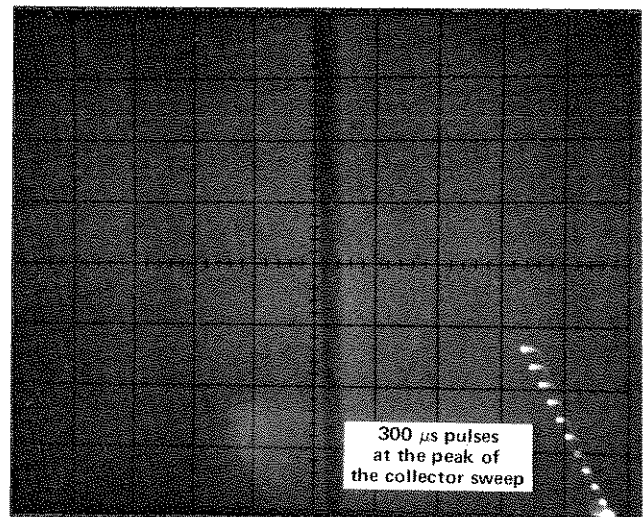

Fig. 12. Illustration of step 14 ($300\ \mu\text{s}$ PULSED)
12. Note that the collector supply has switched to DC and each step is a short duration ($300\ \mu\text{s}$) pulse (see Fig. 12). Turn the VARIABLE COLLECTOR % control slowly counterclockwise and note that the curve is traced and stored (with D1 Display Unit).